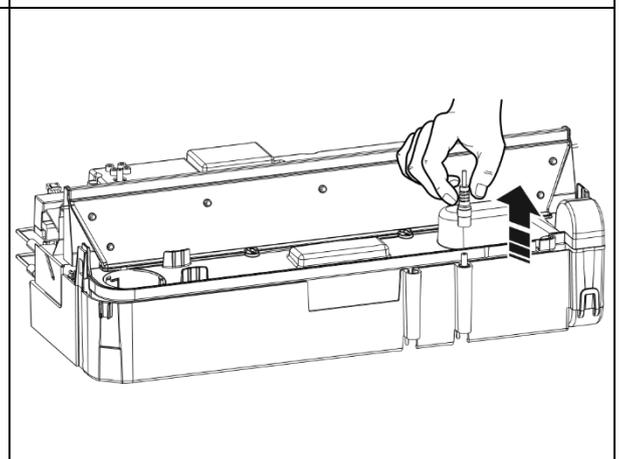
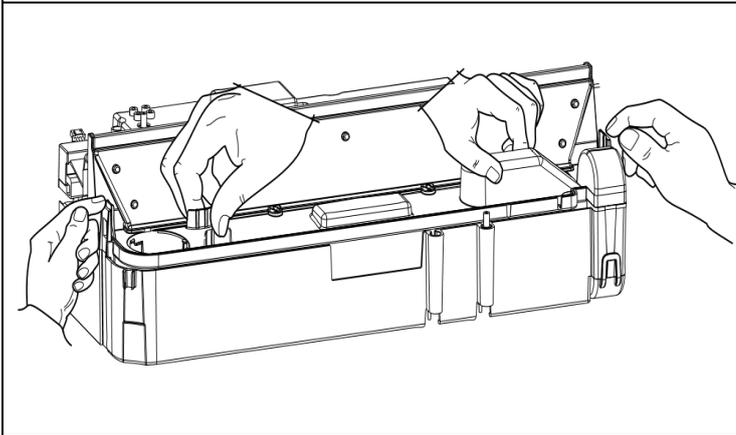

Fig 22
Fig 23
5. There are two orange clips holding down the nozzle on the sump; one on the left and one on the right hand side of the nozzle. On the left side, press in the clip with one hand and with the other lift the nozzle out of the clip. Repeat this for the right side (Fig 22). The nozzle can now be lifted up and placed aside (Fig 23).